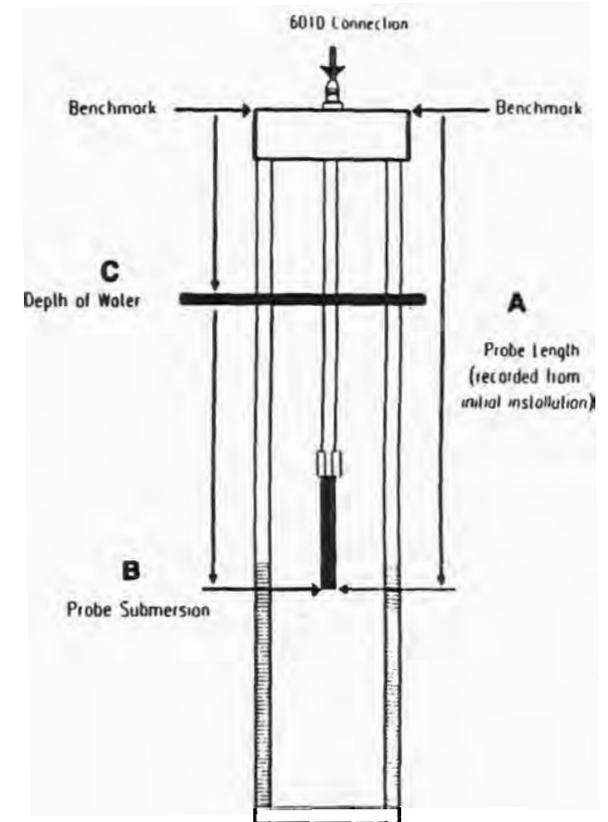

Figure 2-4: Measurements for Probe Installation
If your Well Wizard system includes the Model 6010E Electronic/Pneumatic Water-Level meter, the following steps describe how to install the probe. Refer to Figure 2-4 as you follow the steps.
1. Measure the current static water level in the well (C in Figure 2-4), then record it using your traditional method.